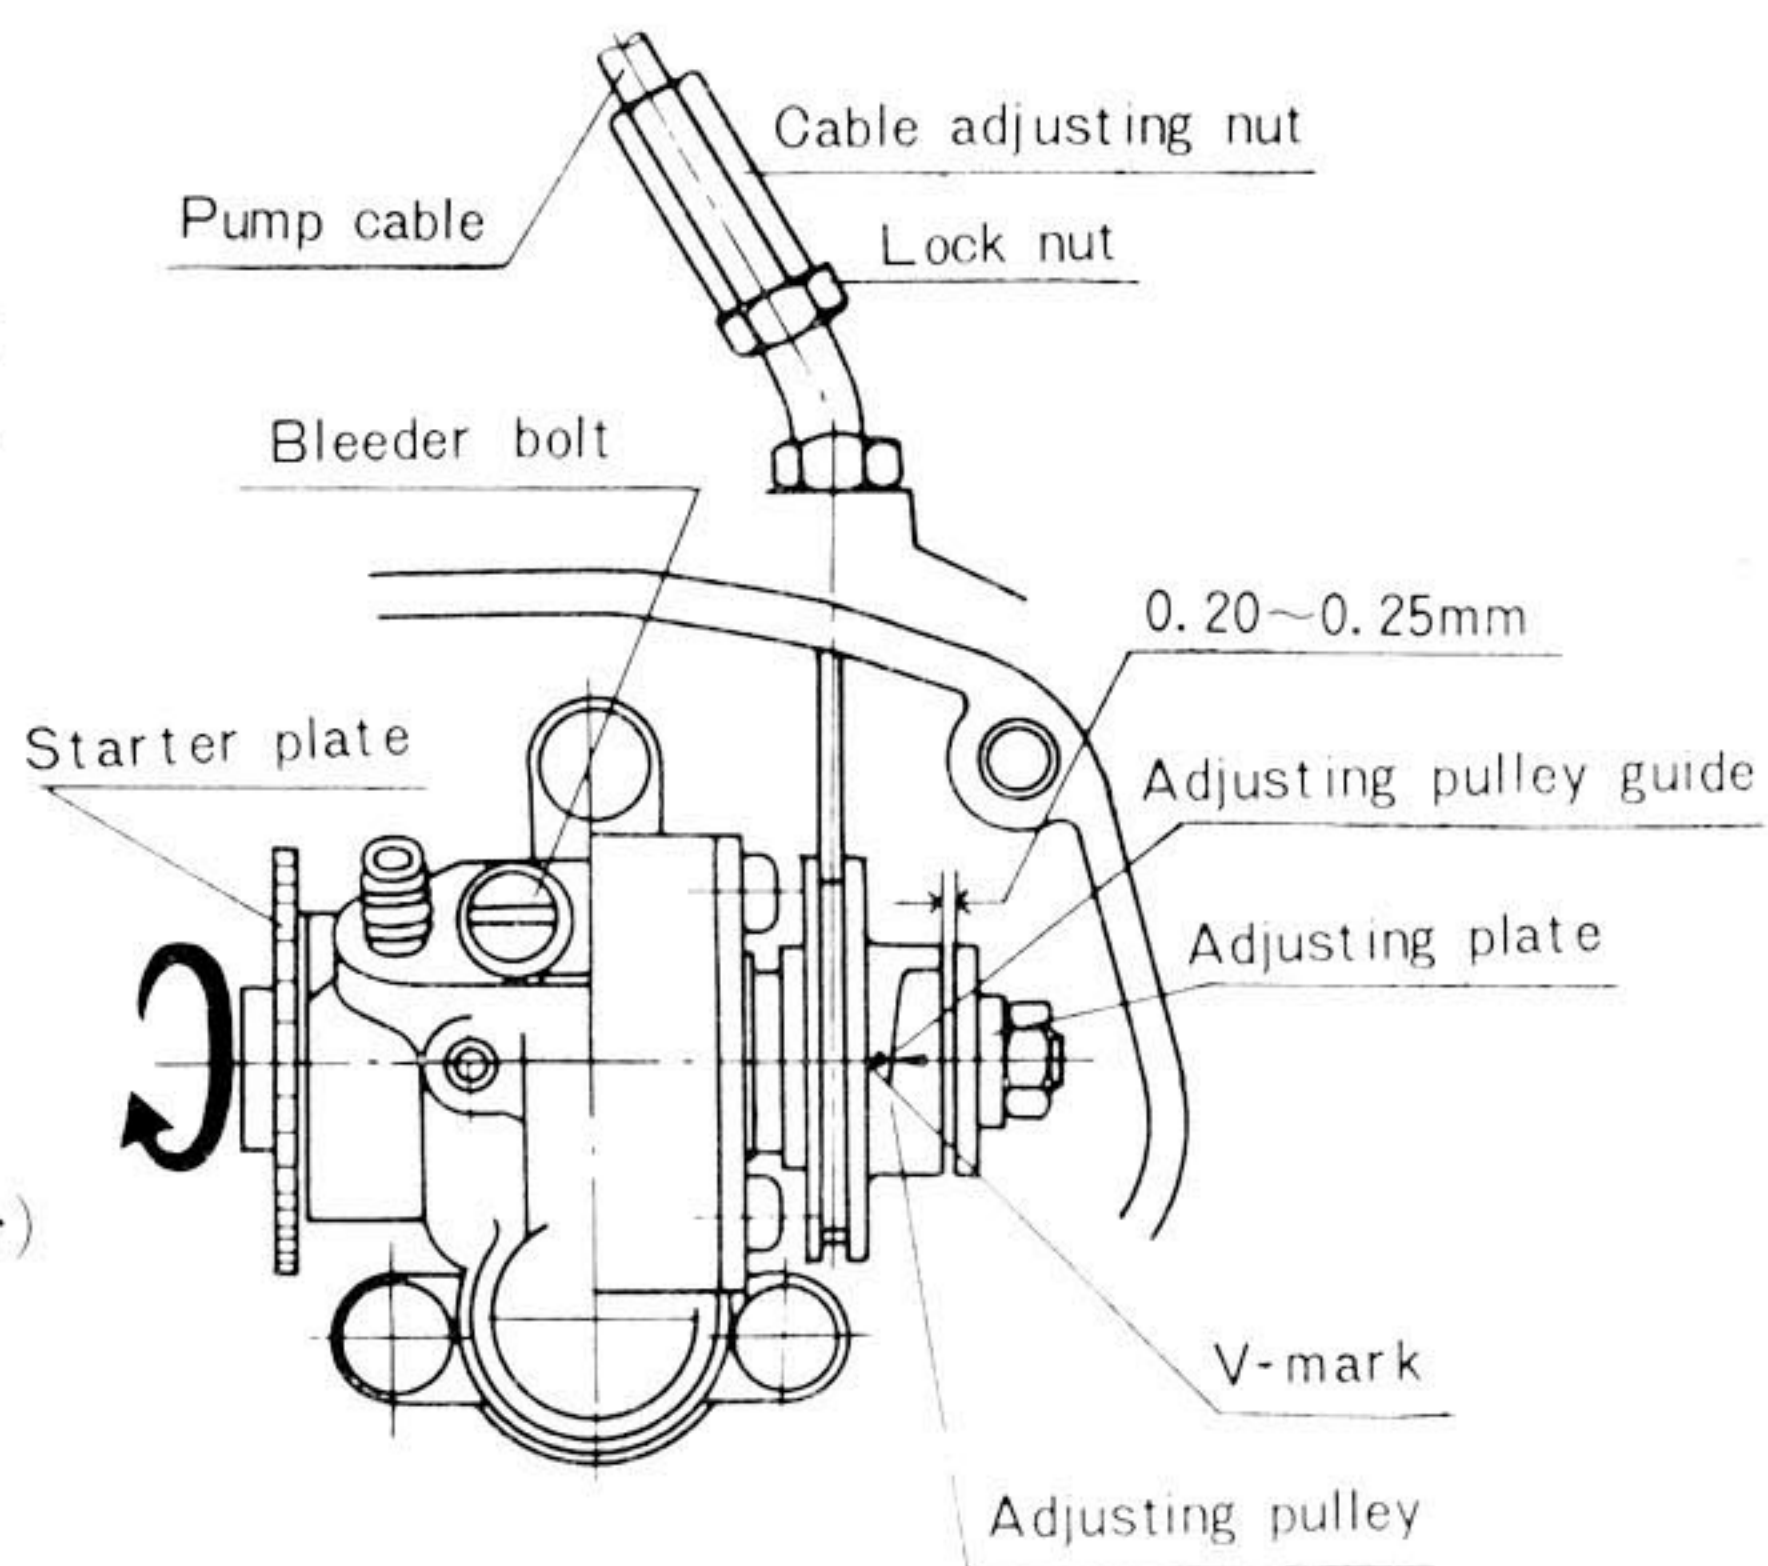

Fig. 2-3-4
- (3) After adjusting the throttle cable, set the oil pump correctly.
- a. Slowly open the handle grip until the play of the throttle cable is removed. (When the play is reduced to zero, the grip becomes somewhat tight). Adjust the pump cable so that the mark on the adjusting pulley is aligned with the guide pin. (Fig. 2-3-4)